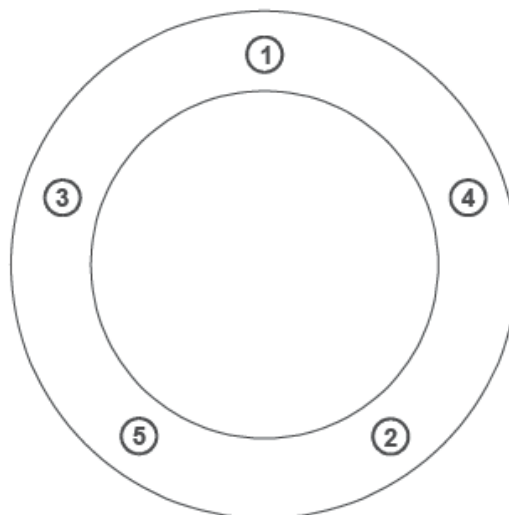

Figure 4 Wheel Nut Torque Sequence
- k. Fit the wheel to the hub and secure it with the five wheel nuts. Tighten the wheel nuts evenly to the specified torque and tightening procedure (Paragraph 26 and Figure 4).
26. Wheel nuts are to be tensioned using the following procedure and the sequence illustrated in Figure 4.